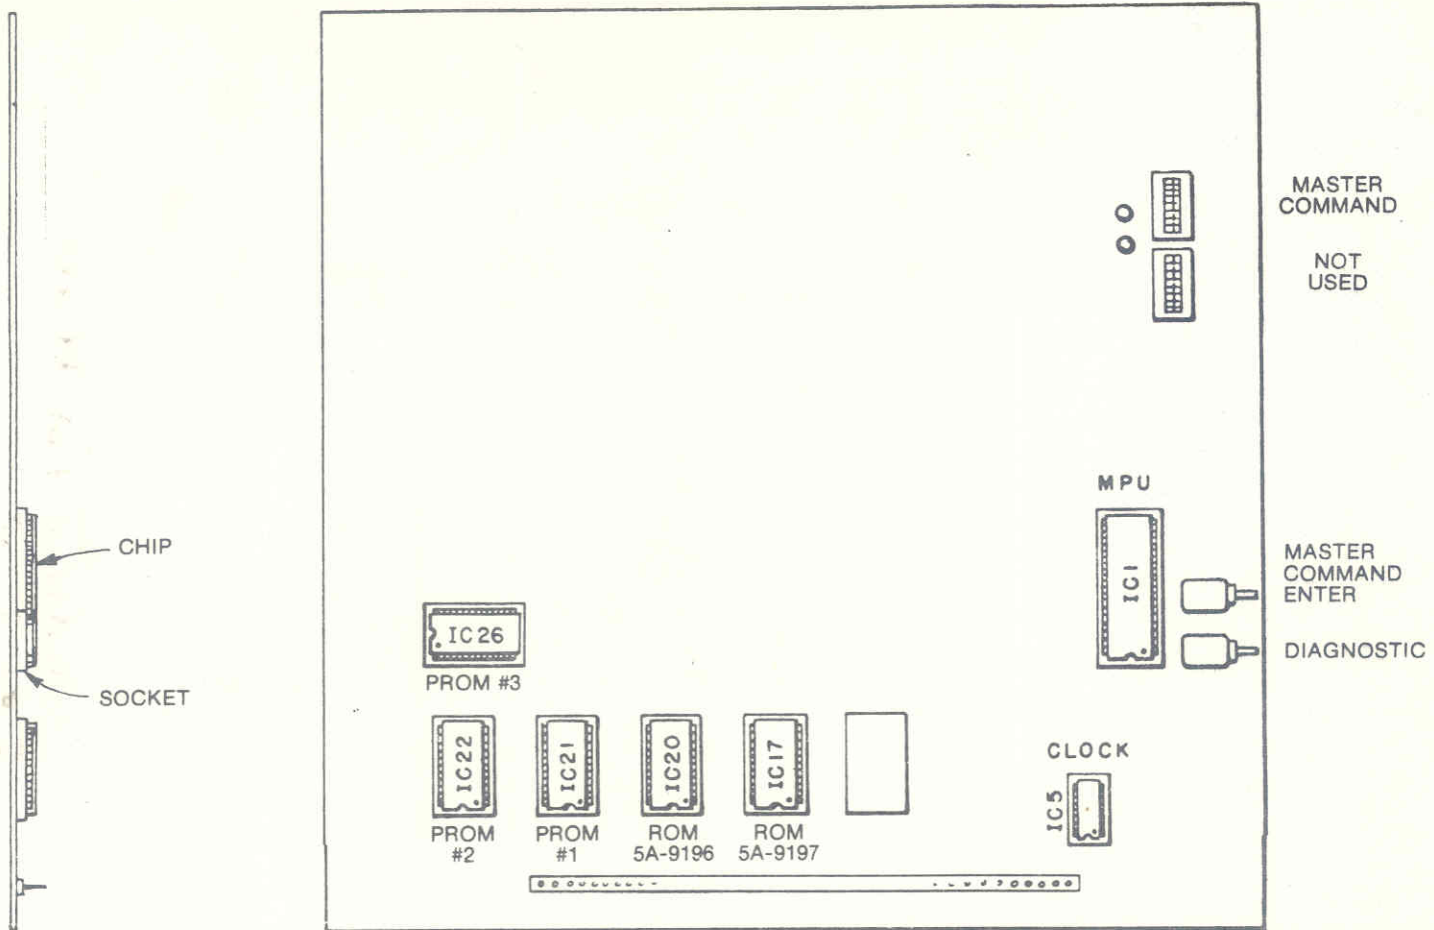

Figure 3. Location of Socketed Components and Switches on CPU Board
7. Gently press on the socketed IC packages on the CPU Board (Figure 3). DO NOT remove any of the IC packages from their sockets.